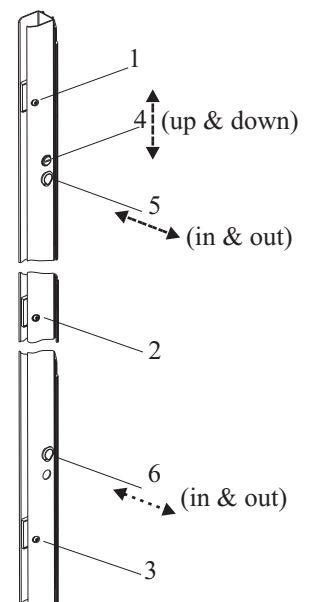

Fig. 19
4.2 Insert large side panel into wall profile glass clamps (see Fig.9) with the soft seal onto the tray and the fitted corner bracket to the front. Move the panel in or out until the corner bracket is spaced equal distance from the front edge of the tray as it is from the side face of the tray. Ensure the panel is vertical then fully tighten the 3 glass clamps screws using a flat head screwdriver (see Fig 19). If after adjusting for vertical, the corner bracket is not seated firmly on the tray, loosen grub screws and tap the bracket down onto the tray (caution - do not exceed 5mm adjustment on this bracket) Pack between bracket and tray if you require more adjustment.
To identify the glass clamps in the wall profile see Fig. 19 The design makes it impossible to break the glass by over tightening because the screw heads will tighten against the wall profiles first. So do ensure these are fully tight
14 FINAL CHECK AND ADJUSTMENT, Open and close the sliding door and check that it runs smoothly. If not, check that the frame is vertical (in to out) and not twisted. If necessary the frame can be adjusted using the lateral adjustment screws see Fig. 19 in guide to adjustments stage 8